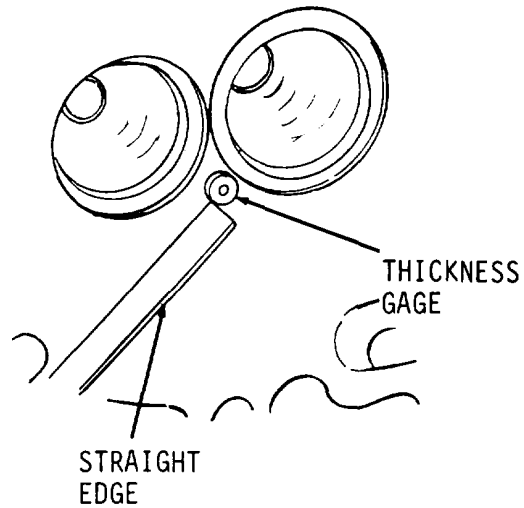
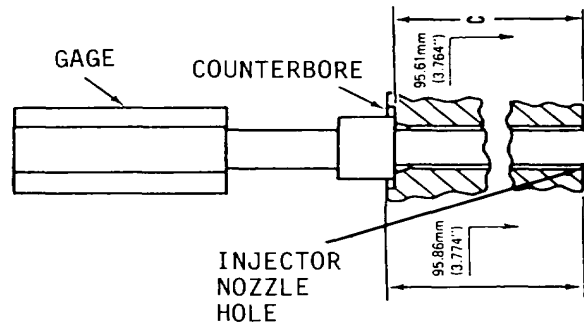

Figure 13-6.
Figure 13-7.
2. Insert gage or equivalent through fuel injection nozzle hole aligning one end of gage with straight edge placed across combustion surface and measure thickness (Figure 13-6). Replace if gage extends above combustion surface or head thickness is less than 3.774 inches. Repeat measurement at all nozzle holes (Figure 13-7).